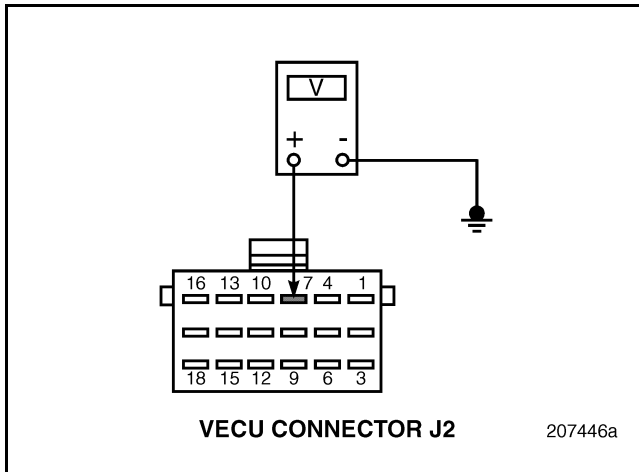

Figure 348
2. Disconnect the Exhaust Temperature (ET) Sensor connector.
5. Measure the voltage between VECU connector J2 pin 7 and a good ground (see Figure 348).